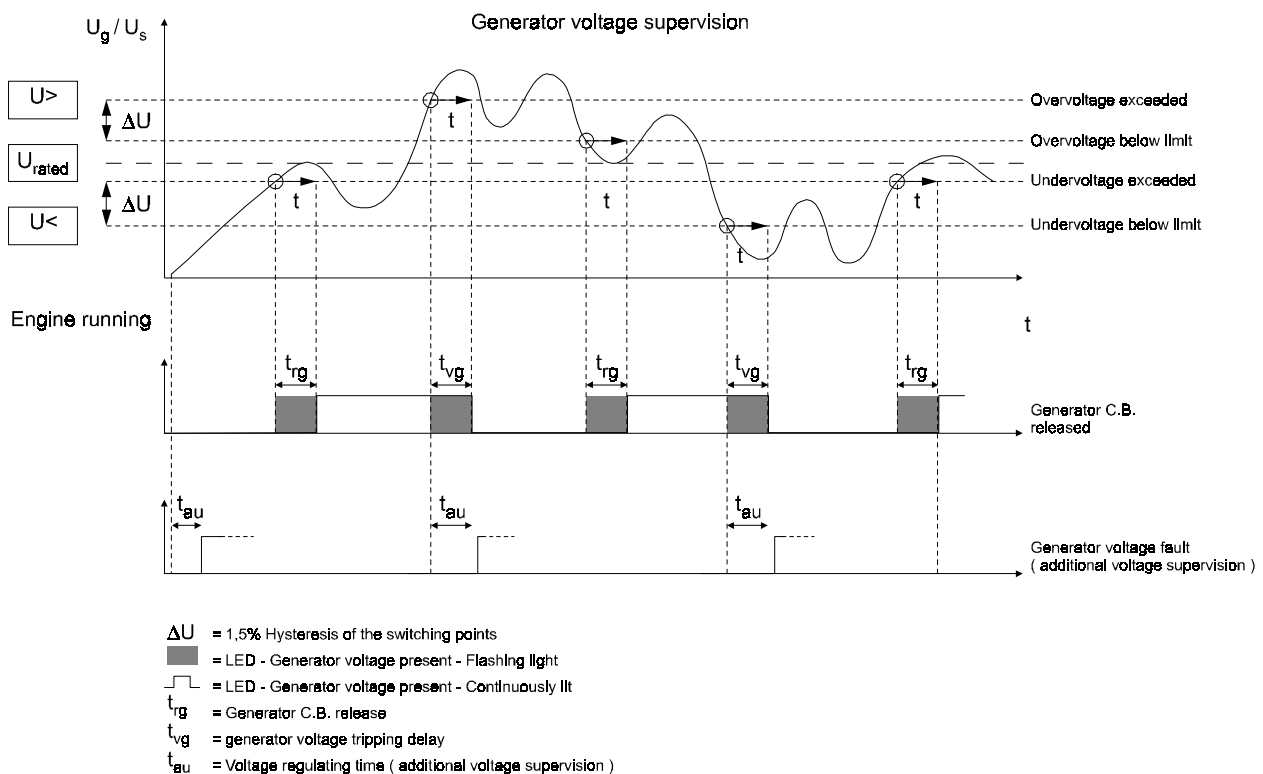

Figure 4.2: Function of the generator voltage supervision
The NB2 is provided with an additional generator voltage supervision element. In emergency power operation this element protects synchronous generators with auto excitation against inadmissible voltages values which, for instance, may be caused by interruption of the measuring line in the control circuit of the voltage regulator. Contrary to undervoltage and overvoltage functions, where in failure cases only release of the generator CB is prevented, this additional generator voltage supervision element stops the genset 30 s ($= t_{au}$, see Figure 4.2) after a generator voltage fault has occurred, unless the generator voltage has regained values within permissible ranges. The incorrect generator voltage is indicated by the fast flashing "Generator Voltage" LED  (12) and can be reset by push-button RESET/L.TEST after the genset has stopped. The generator voltage supervision element becomes only effective after the supervision delay time has elapsed. Switching points for overvoltage and undervoltage are identical to those of normal voltage supervision element, i.e. +10% and -15%.